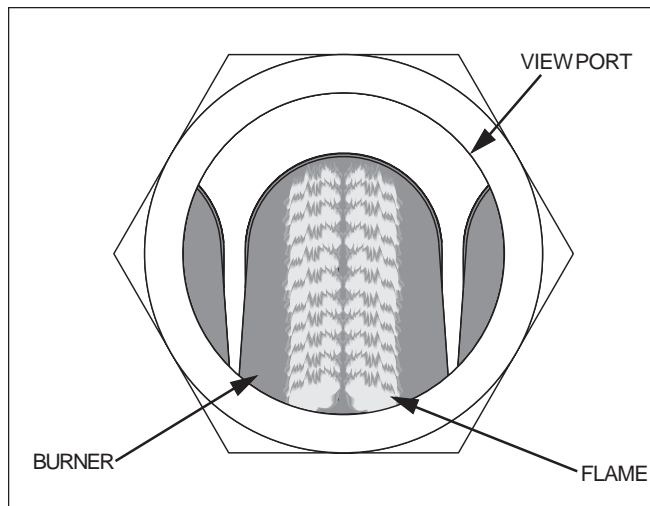
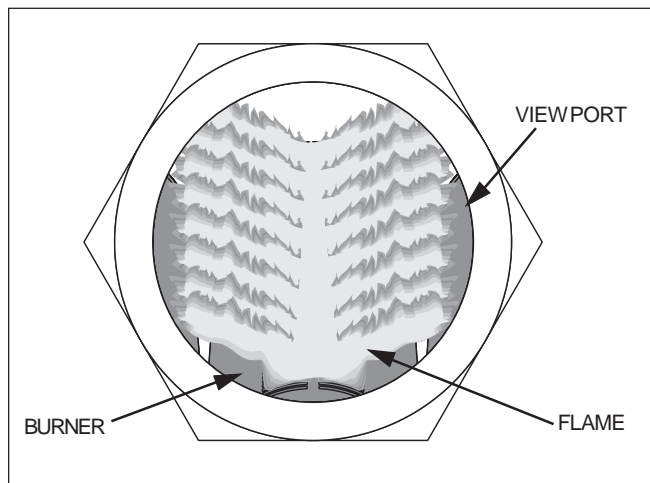

Figure 32. Flame view at low blower speed
Figure 33. Flame view at high speed
12. Make a visual check of the main burner flame. The flame can be seen in a view port on the front panel of the combustion chamber. When the blower is on low speed, the flame should be light blue in color and short (see Figure 32). When the blower is at full (high) speed, the flame will spread out over the burners in a "flying" mode and will remain light blue in color (see Figure 33). If flame appearance is otherwise, adjustment is necessary as described in the following section.